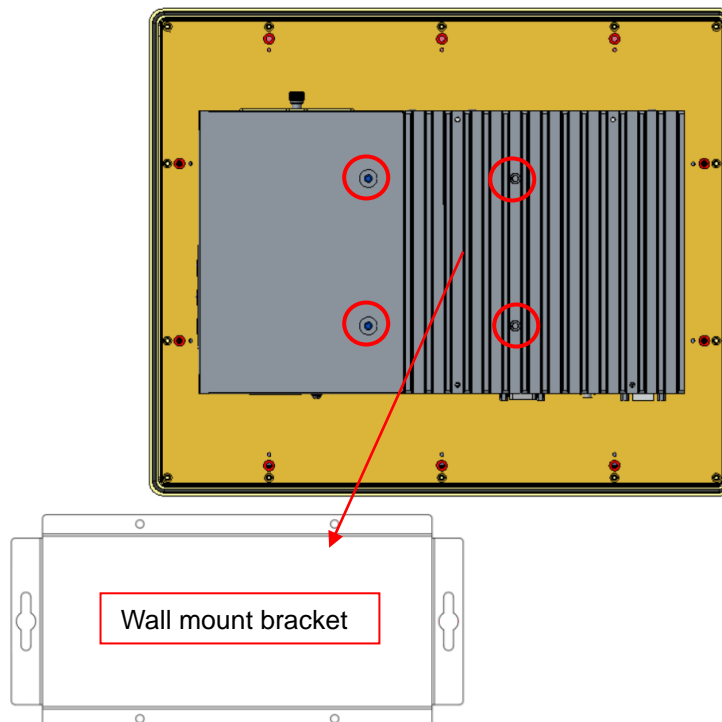

Figure 2-4: Wall mount screwing holes on the back chassis
- Step 2** Put the panel PC into the cutout on the front side of the frame, with the panel PC's front bezel facing the outside, as shown in Figure 2-4.
- Step 1** On the back chassis of the panel PC, locate the screwing holes for assembling the wall mount bracket, as shown in Figure 2-4.